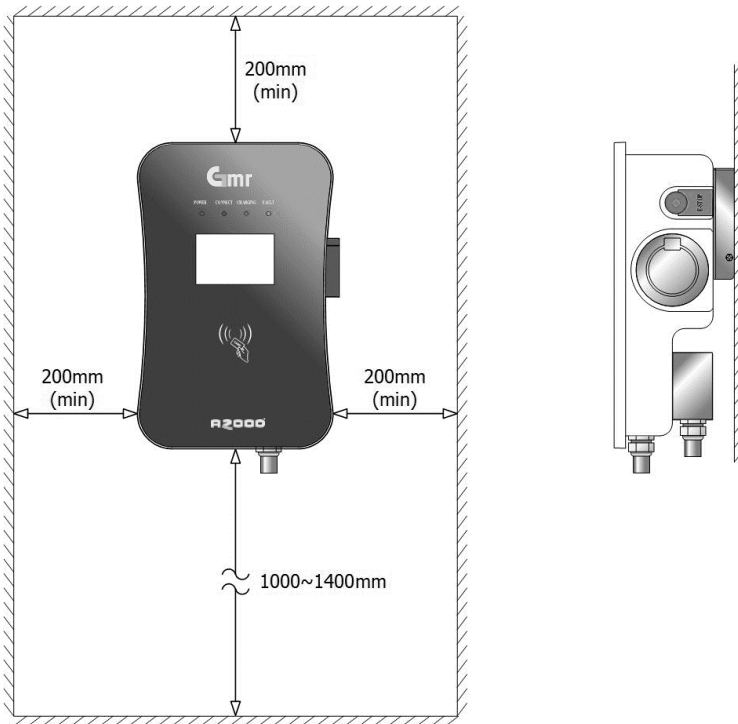

Fig. 5-2 Minimum space requirements for wall mounting
- Space requirement: When the charging station is fixed on the wall, the minimum space requirements are shown in Fig. 5-2.